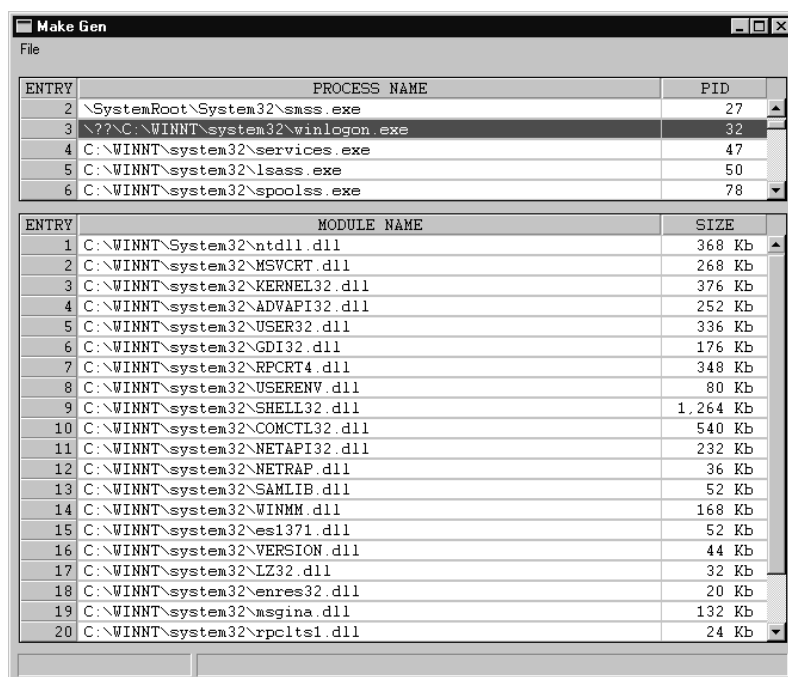

Figure 3-39. Show DLL List Dialog
- **Util > Tools > Show DLL List ...:** Selecting **Show DLL List ...** from the **Util > Tools** fly-out menu causes the dialog shown in Figure 3-39 to appear. This dialog displays all processes that are currently running on your PC. Clicking on a process in the upper part of the dialog displays all the associated *.dll* (dynamic link library) files in the lower part of the dialog that are currently resident in the PC's memory. This feature can be useful when troubleshooting software conflicts. The **File** menu contains only one (1) selection, **Print ...**, which prints the currently selected process and associated DLL list.